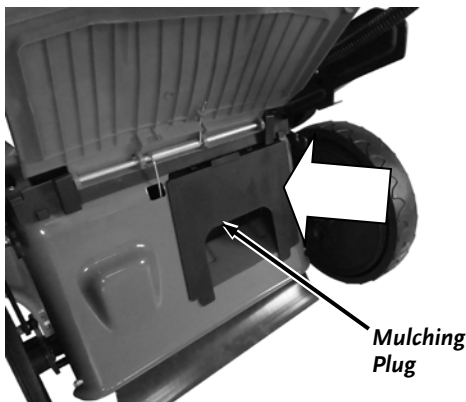

Figure 13
1. Open the Rear Cover and insert the Mulching Plug (**Figure 13**).